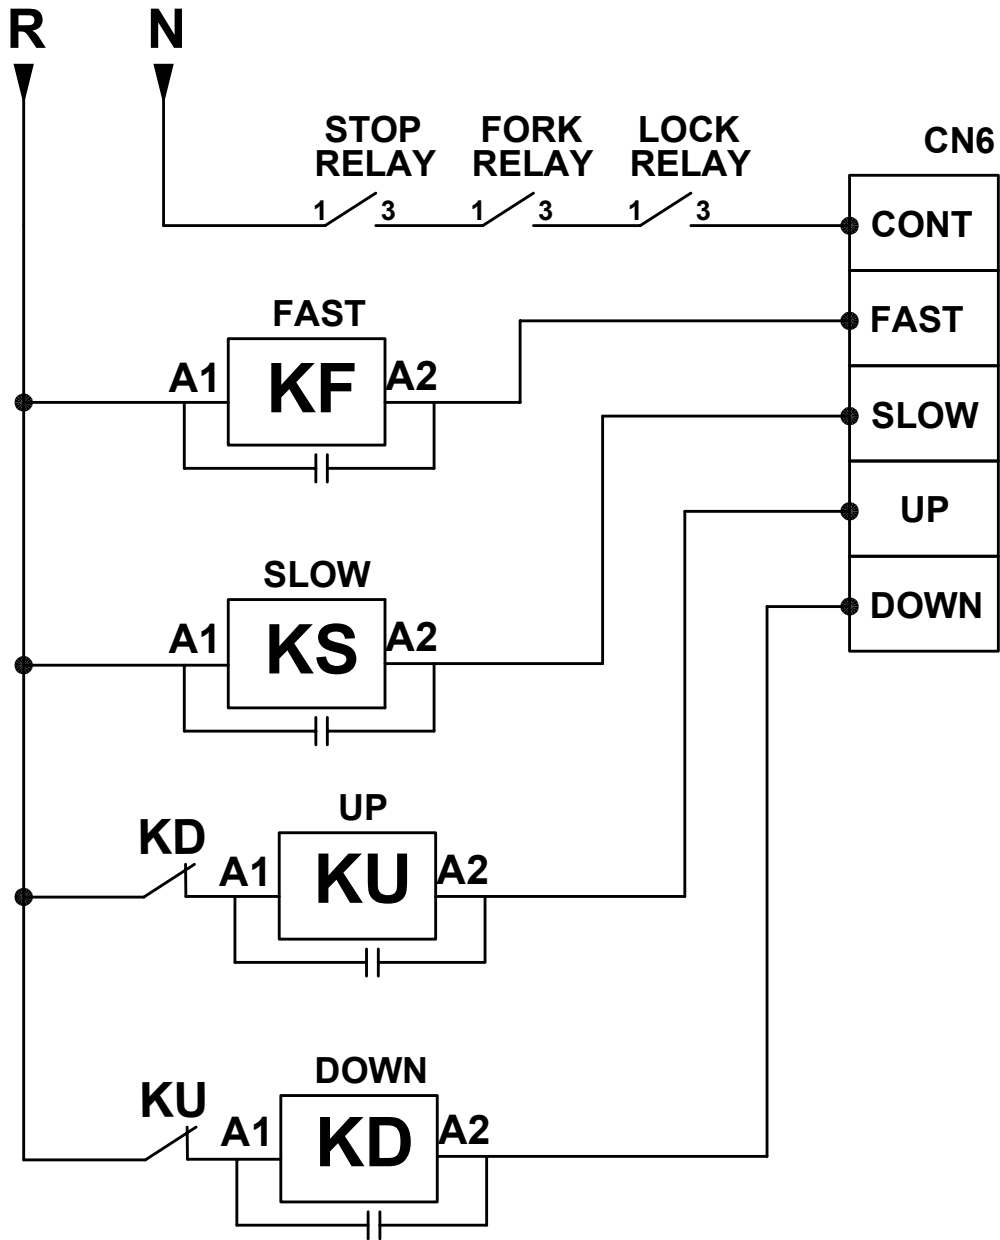

Figure 13.0 - Two-Speed System Connections
The terminals of operating the Two-Speed System with contactors are wired and connected as illustrated in Figure 13.0.
- The motion signal terminal (CN6) is connected as illustrated in Figure 13.0.
- For more safety, there is an external electrical interlock between Up and Down contactors as illustrated in Figure 13.0.